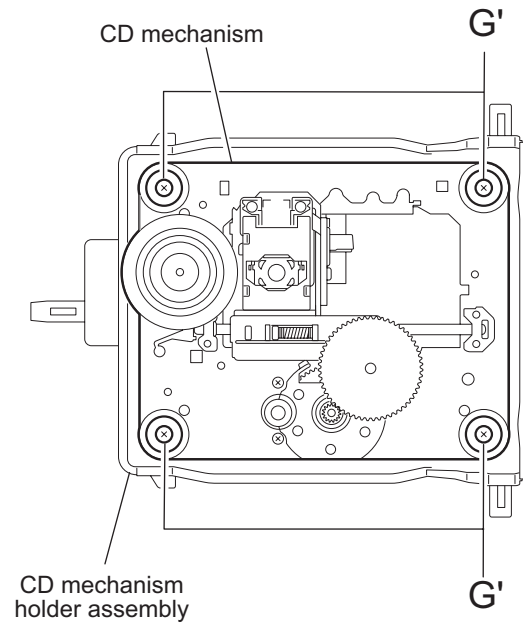

Fig.54
- (2) Pull outward the two stoppers setting the shafts on both sides of the CD mechanism holder assembly, and remove the CD mechanism holder assembly in the direction of the arrow.
3.3.5 Remove the CD mechanism assembly (See Fig.54,55)